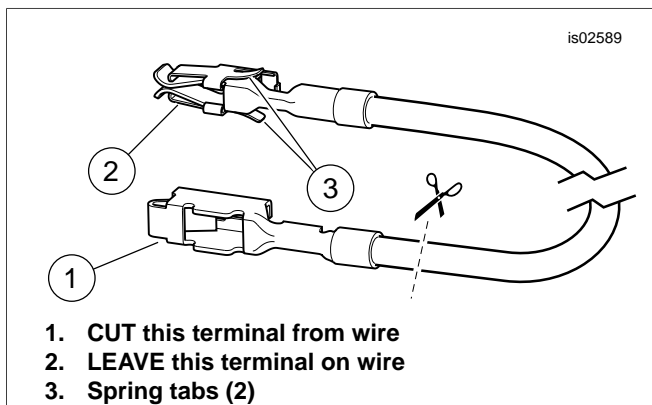

Figure 17. Fuse Block Adapter Wire (Dyna and Softail)
3. See Figure 27. Get the orange/white fuse block adapter wire (12) from the kit. Note the terminal on each end (see Figure 17). Only the terminal with the spring tabs will fit into this fuse block. Carefully cut the unused terminal from the wire and discard it.
3. See Figure 27. Get the orange/white fuse block adapter wire (12) from the kit. Note the terminal on each end (see Figure 17). Only the terminal with the spring tabs will fit into this fuse block. Carefully cut the unused terminal from the wire and discard.